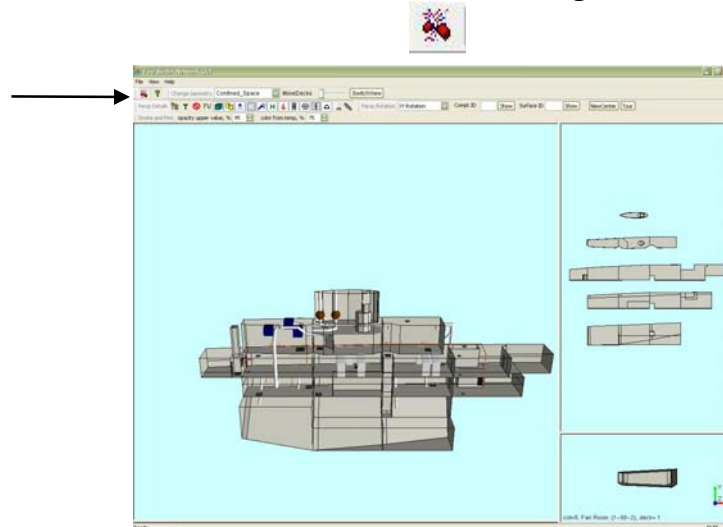

Figure 3-2 Fire Simulation Button Location
Step 2: Click the Fire Simulation button as shown in Figure 3-2.